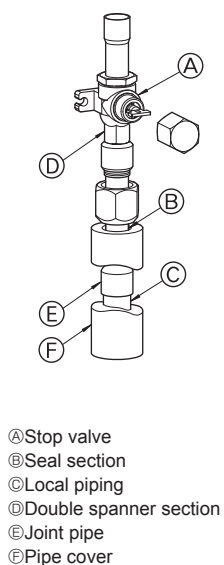

Fig. 4-3
- ③ Use the following procedure for connecting the gas-side piping. (Fig.4-3) (SHW230)